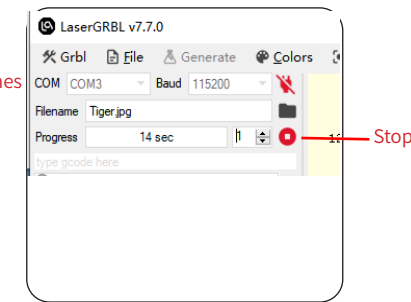

Figure 19 Stop engraving/cutting
- If you want to stop engraving/cutting while the machine is running, you can click the stop button as shown in the Figure 19 to stop engraving/cutting.